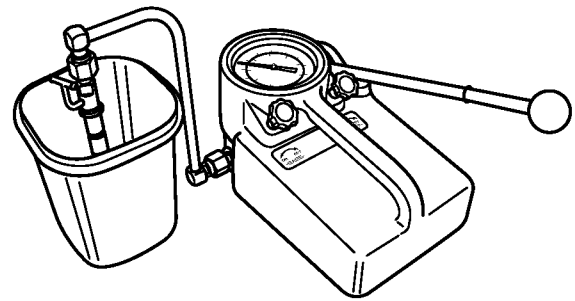

Figure 7-54
4. Pump the operating lever of the tester slowly, observing the pressure reading at the point where the fuel injector begins spraying fuel (Figure 7-54).